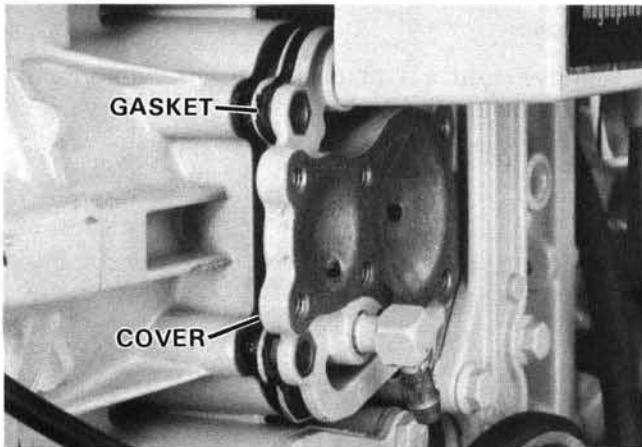

Figure 7. Installing Fuel Pump Cover.
- B. Install gasket and fuel pump cover on power head and secure with four (4) screws. Figure 7.